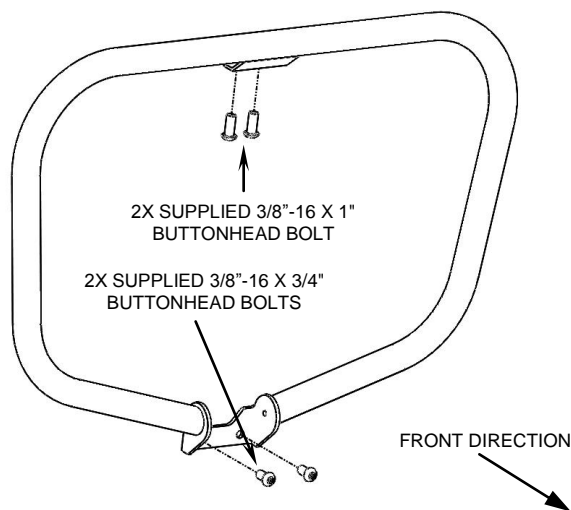

FIGURE 2
3. Position the freeway bar into place between the frame rails and front tire. Align the slotted holes in the freeway bar's upper mount with the open holes on the frame (refer to Step 2) and insert the (2) supplied 3/8"-16 x 1" buttonhead bolts but **DO NOT TIGHTEN**. See Figure 2.
4. Thread the (2) supplied 3/8"-16 x 3/4" buttonhead bolts thru the lower freeway bar mount and into the lower frame brace but **DO NOT FULLY TIGHTEN**. See Figure 2.